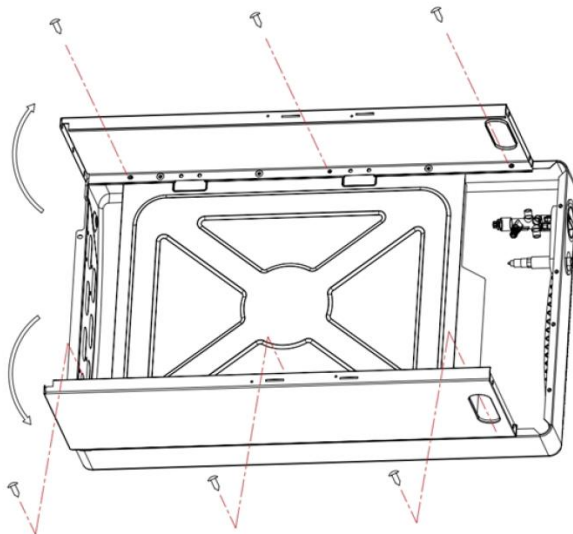

Fig. 1
1. Lay the front panel of the device on the floor as shown in Figure 1. Place a towel or any soft cloth under it to prevent damage. Insert the left (1) and right (3) side panels at a 90 degree angle into the device's front panel.
Use 6 screws 4*8 mm  to attach the left and right side panels to the front panel of the device (6) (see fig. 1)